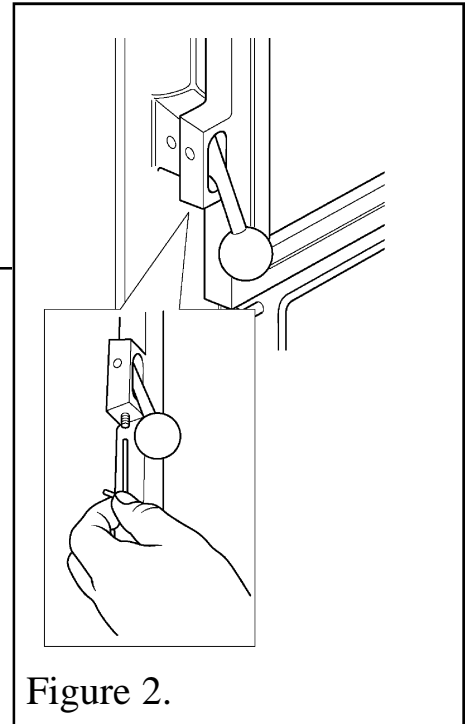

Figure 2.
1. The door is secured with a locking screw. Remove the screw with the allen key supplied (See figure 2). Open the door.